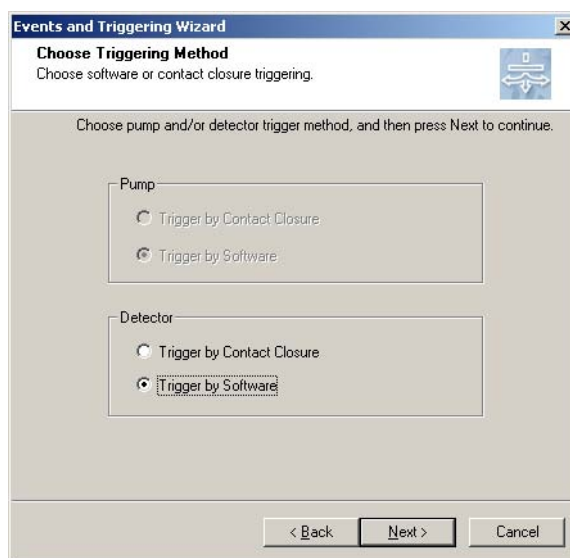

Figure 4-21 Choose Triggering Method Page
14. Click Next to open the Choose Triggering Method page (Figures 4-21).